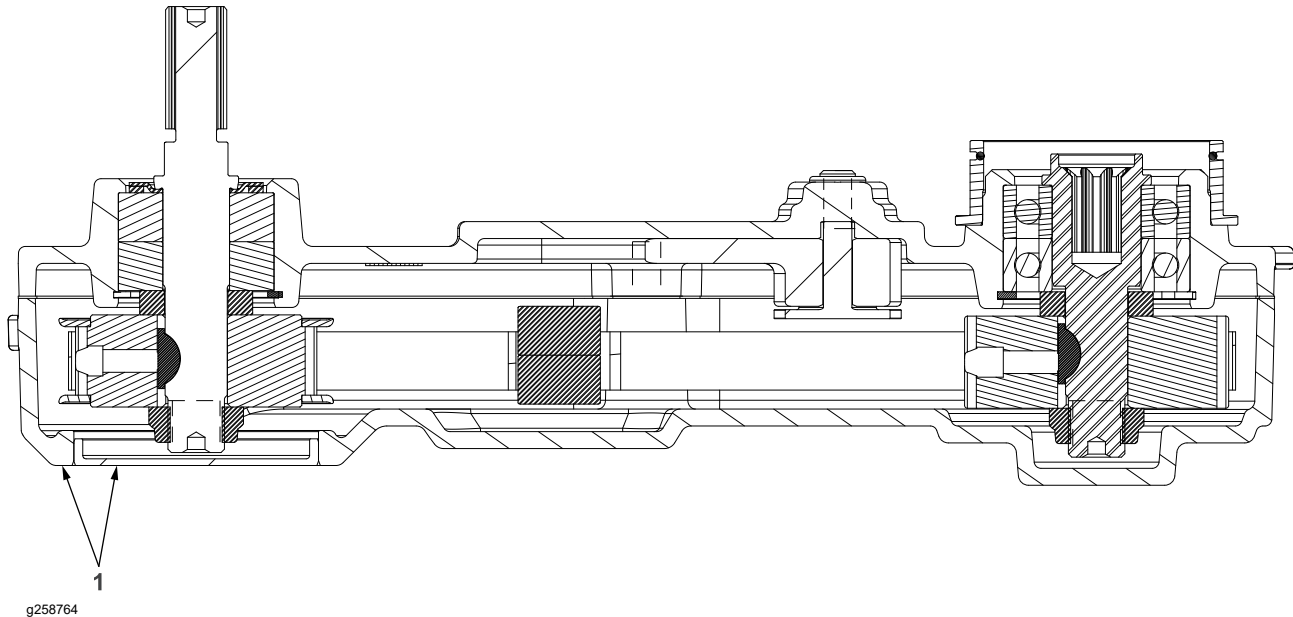

Figure 17
20. If removed, install the expansion plug (13) to the reel drive cover (14) and press flush to outer surface (refer to Figure 17) of the reel drive cover.